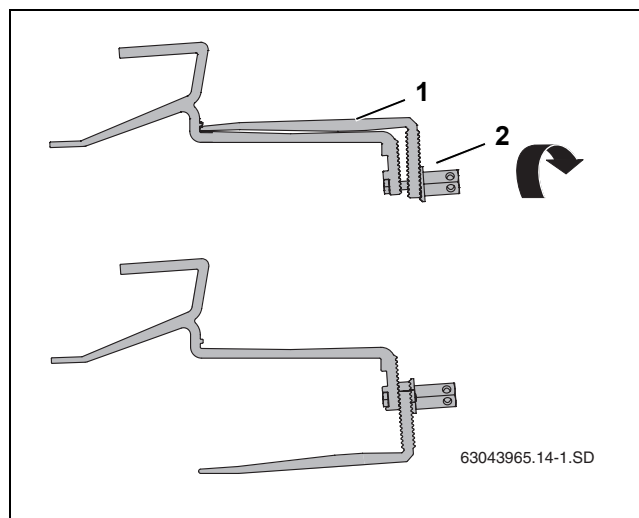

Fig. 13 Rotate lower part of roof hook
- ▶ Loosen the long hexagon nut (Fig. 13, [2]) on the roof hook and place the lower part of the hook (Fig. 13, [1]) in the correct position.